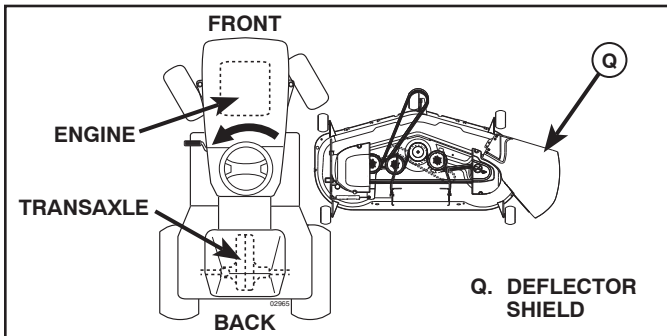

Fig. 4
3. TURN STEERING WHEEL LEFT AND POSITION MOWER (See Fig. 4)
- Turn steering wheel to the left as far as it will go and position mower on right side of tractor with deflector shield (Q) to the right.